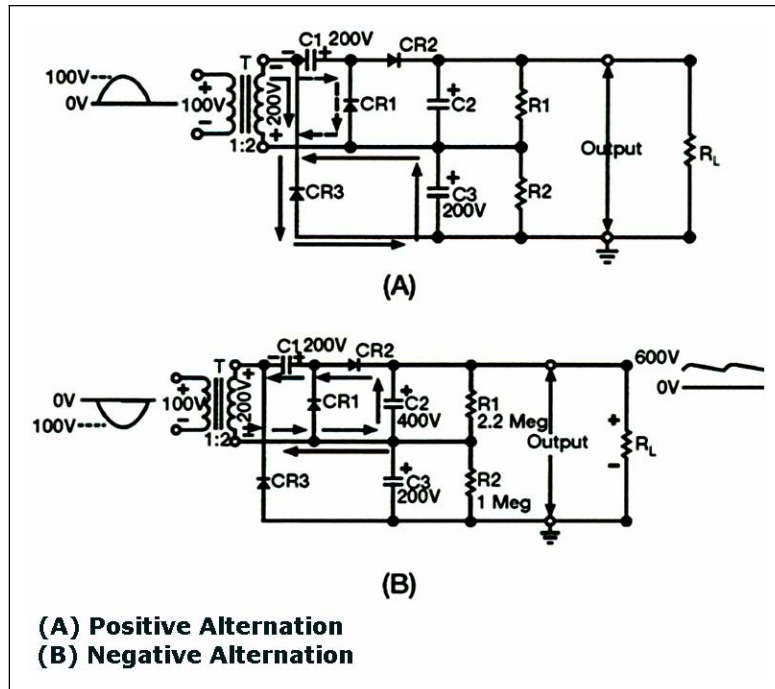

Figure 4-48. Voltage Tripler
4-128. Figure 4-48, view (A) shows the schematic for the voltage tripler. Notice that CR3 is forward biased and functions like a closed switch. This allows C3 to charge to a peak voltage of 200 volts at the same time C1 is also charging to 200 volts.
4-129. Figure 4-48, view (B) shows the other half of the input cycle. C2 is charged to twice the input voltage, or 400 volts, as a result of the voltage-doubling action of the transformer and C1. At this time, C2 and C3 are used as series-aiding devices and the output voltage increases to the sum of their respective voltages, or 600 volts. R1 and R2 are proportional according to the voltages across C2 and C3. In this case, there is a 2 to 1 ratio.